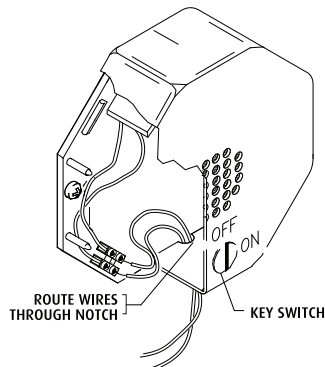

Figure 5
3. Connect two conductor wire (14-24 AWG) from main unit terminal block pins COM and NO to remote horn unit terminal block (wire not provided). Units can be set up to 300 ft. apart. Not polarity sensitive (refer to Fig. 1 and Fig. 5 for details).